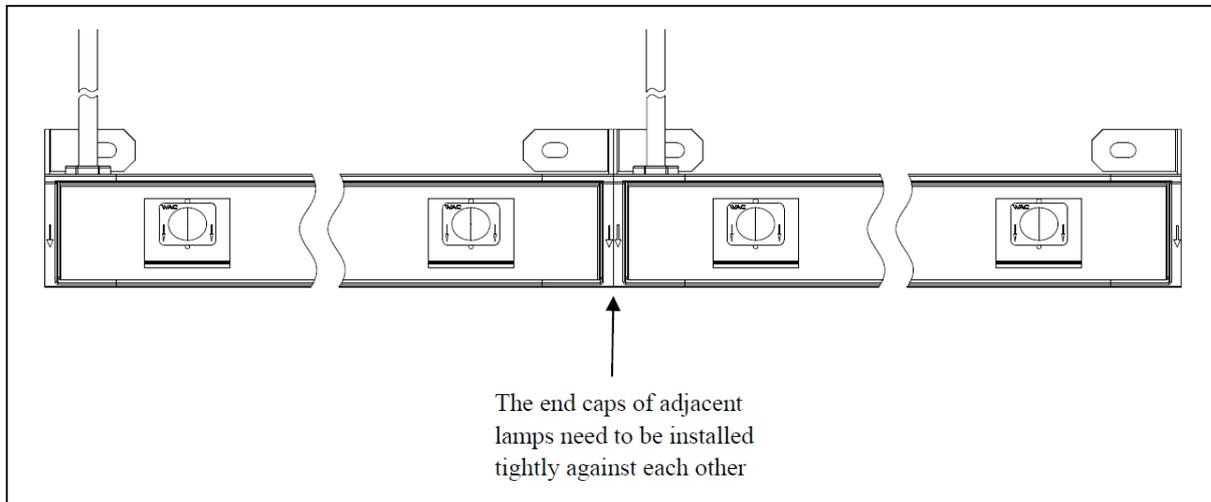

Fig.4
- When installing lamps, the end caps of two adjacent lamps need to be installed closely together, as shown in Figure 4.